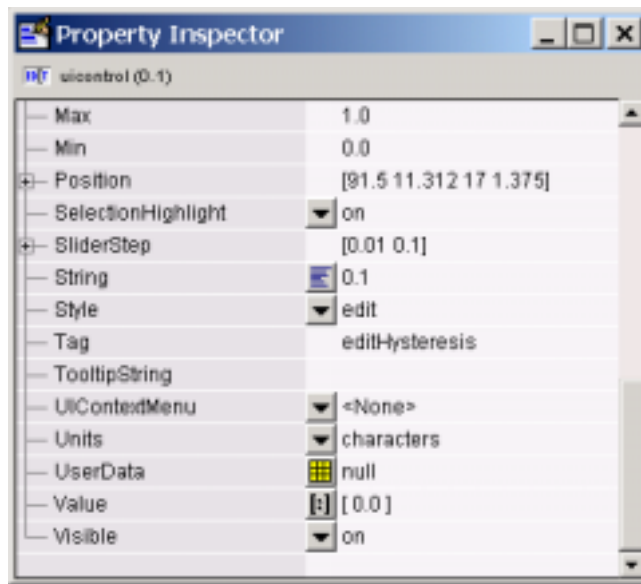

Figure 50: The MATLAB guide utility Property Inspector
3. To change the default label for each of these controls, double-click the label or right-click and select **Property Inspector** (see Figure 50) from the context menu of the label, then change the String property from the default text to the desired text.